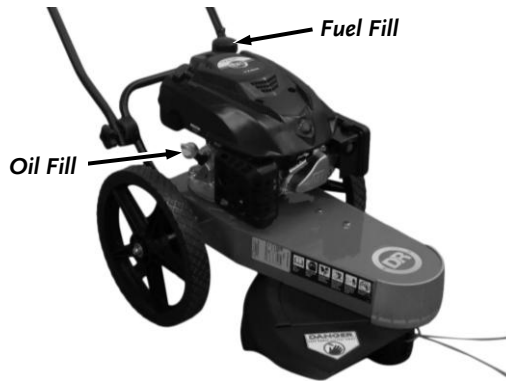

Figure 8
1. Place the machine on a level surface and initially add 1/2 of the SAE 30 High Detergent oil into the Oil Fill (**Figure 8**) and wait one minute for the oil to settle.